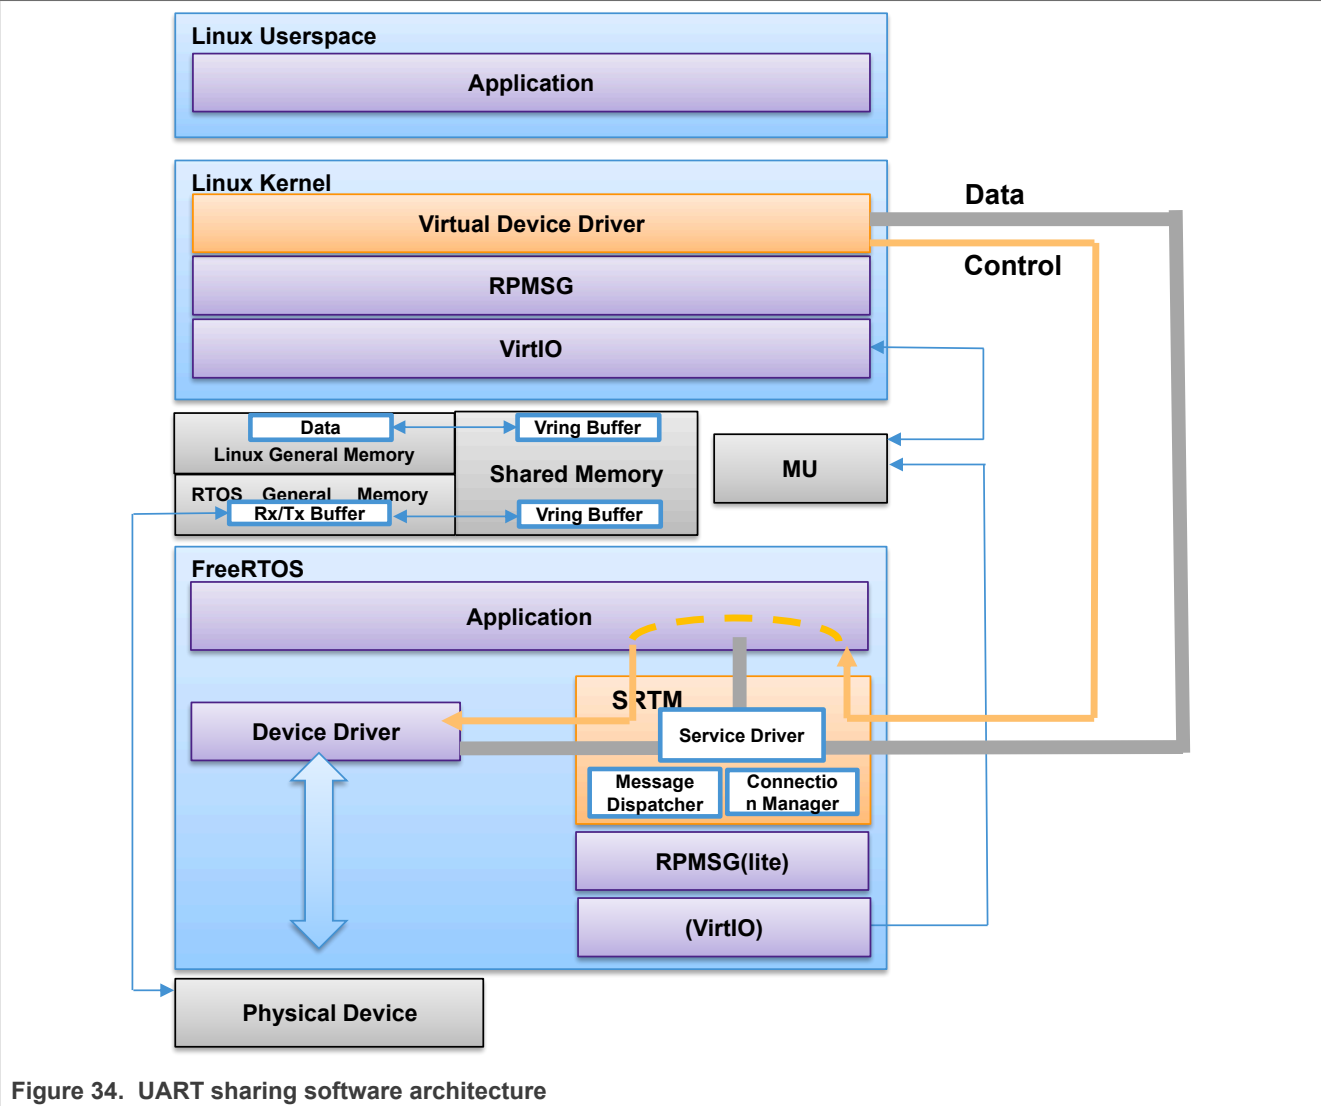

Figure 34. UART sharing software architecture
Figure 34 illustrates the software architecture of a UART sharing design.
- The “Address” field is reused by receive from transmit directions. For the receive direction (blue colored path in Figure 34), it is the destination address or ID of target virtual device. For the transmit direction (orange colored path in Figure 34), it is the source address or ID from which virtual device is transmitted.